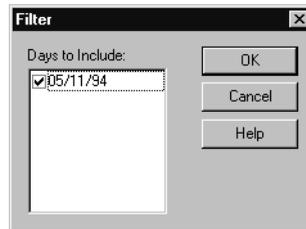

Figure 5.2. Filter Dialog Box
2. In the **Filter** dialog box, Figure 5.2, select the date(s) for the data you wish to view.